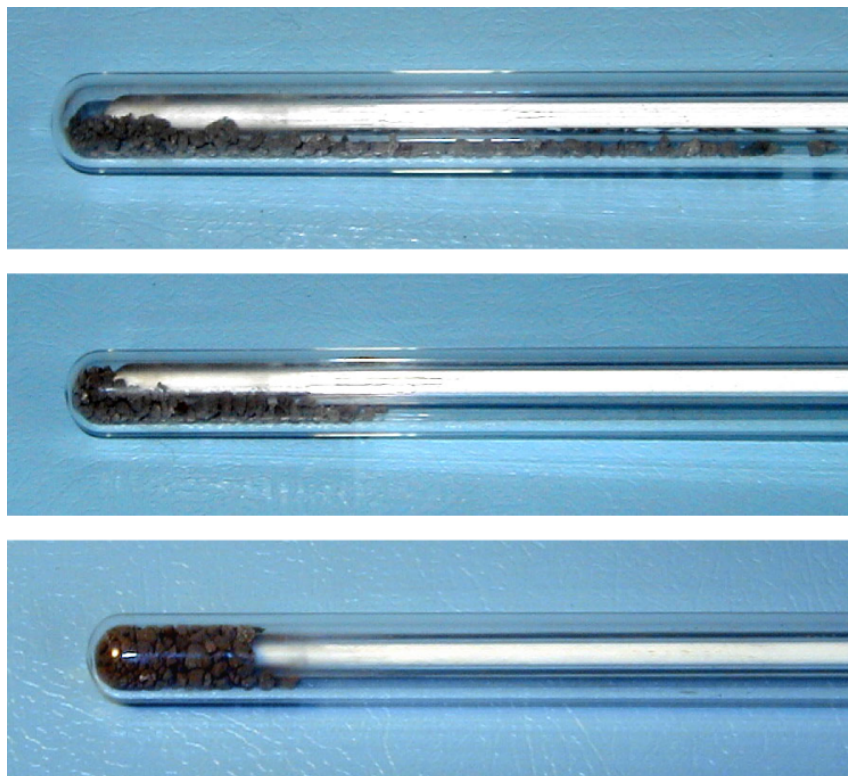

Figure 9: Insertion of the specimen into the measuring vessel-
- The sensor and the silica glass pipe are very fragile. For this reason, a very careful manipulation is needed to prevent the damage of the pipe when it is inserted in or taken out from the measuring tube with the specimen. Fill the specimen to the measuring vessel, spread specimen in the horizontally along the vessel and carefully insert the thermometer. Then set the vessel with thermometer to the vertical position and shake gently the specimen down step by step as shown at Fig.9. Do not push the thermometer into the specimen which is on the bottom of the measuring vessel.